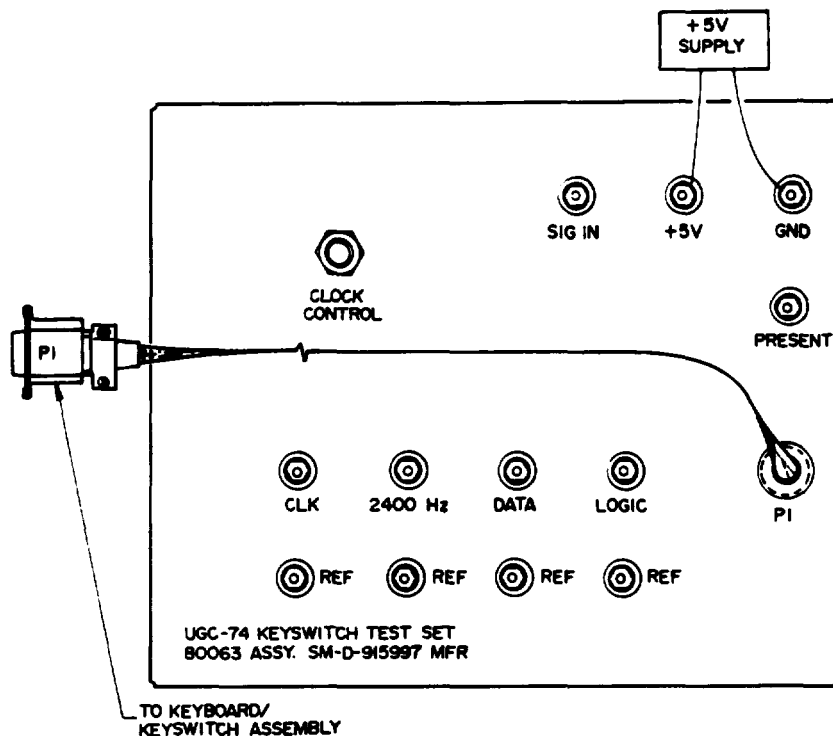

Figure 6-38. KEYBOARD ASSEMBLY TEST CONFIGURATION
(See figures 6-38 and 6-39. )
- Set up test fixture as shown in figure 6-38, with the exception of connection to keyswitch assembly.